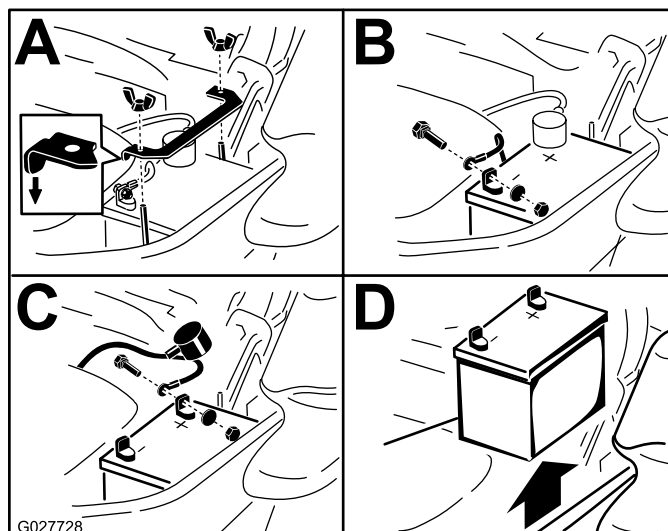

Figure 59
3. Disconnect the negative battery cable (black) from the negative (-) battery terminal (Figure 59).
4. Slide the red terminal boot off the positive (red) battery terminal, and remove the positive (+) battery cable (Figure 59).
5. Remove the wing nut securing the battery clamp (Figure 59).
6. Remove the clamp (Figure 59).
1. Position the battery in the tray with the terminal posts opposite from the hydraulic tank (Figure 59).
4. Secure the cables with 2 bolts, 2 washers, and 2 locknuts (Figure 59).
6. Install the clamp and secure it with the wing nut (Figure 59).